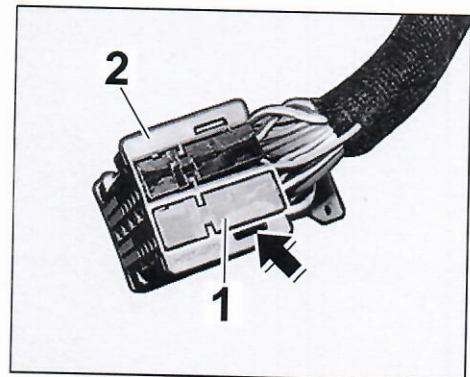

Figure 33
- 4.6.2 Press down the locking mechanism ⇒ *Figure 33 -arrow-* and slide the grey plug socket ⇒ *Figure 33 -1-* out of the plug carrier ⇒ *Figure 33 -2-*.